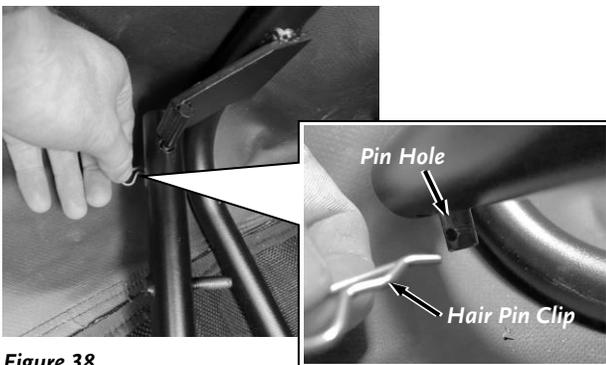

Figure 38
3. Secure the Hinge Tube Assembly onto the pin with a hair pin (Pin, Cotter, Hair, 1/4-3/8) that can be found in the Product Pack (**Figure 38**).